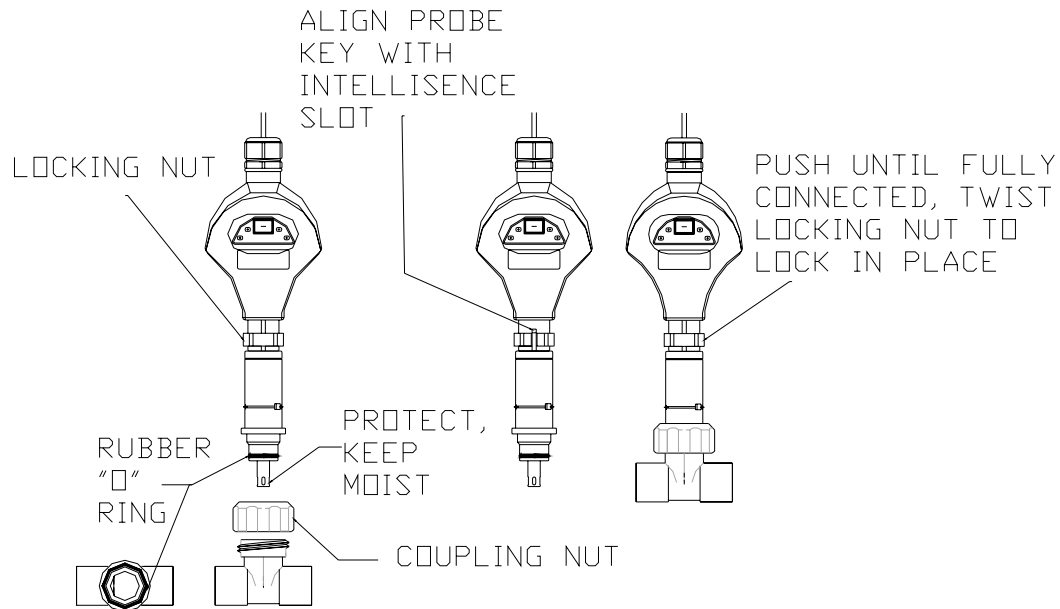

Fig. 3 Diagram of probe IntelliSense installation
- Use supplied cover filled with proper storage solution. (see *Figures 3&5*). See **Section 12 - Maintenance** for more information
- Slip coupling nut over probe. Gently install probe into probe housing on flow assembly. Make sure probe is firmly seated in housing. (Figure 3)